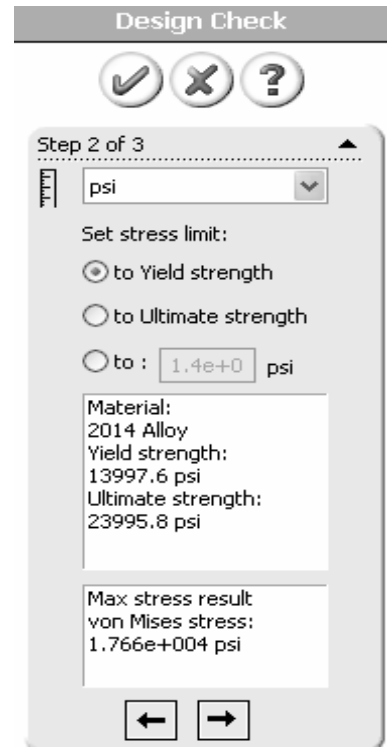

Figure 22 – Step 2 of 3 in the **Design Check** process.
5. Proceed to the next step by clicking arrow button [→] at the bottom of this dialogue box. The **Design Check, Step 2 of 3** dialogue box appears as seen in Fig. 22.